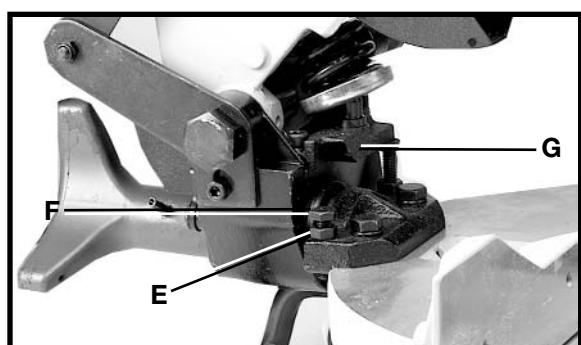

Fig. 28
6. Use a combination square (A) Fig. 28, to see if the blade is at 45 degrees to the table.
7. If an adjustment is necessary, loosen locknut (E) Fig. 28, and turn screw (F) until screw (F) contacts casting (G) when blade is 45 degrees to the table. Then tighten locknut (E).